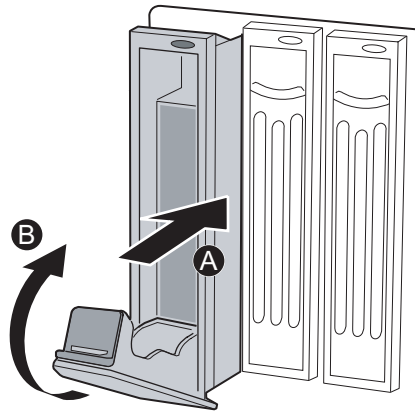

Figure 21. Re-seating Hard Disk Drives in Hard Disk Drive Bays
- A. Re-seat all hard disk drives and hard disk drive carriers in the hard disk drive bays located on the front of the system. Slide all hard disk drives and drive carriers into the bays as far as they can go. See Figure 21.
- B. Use the handles to lock the drives into the bays. See Figure 21.